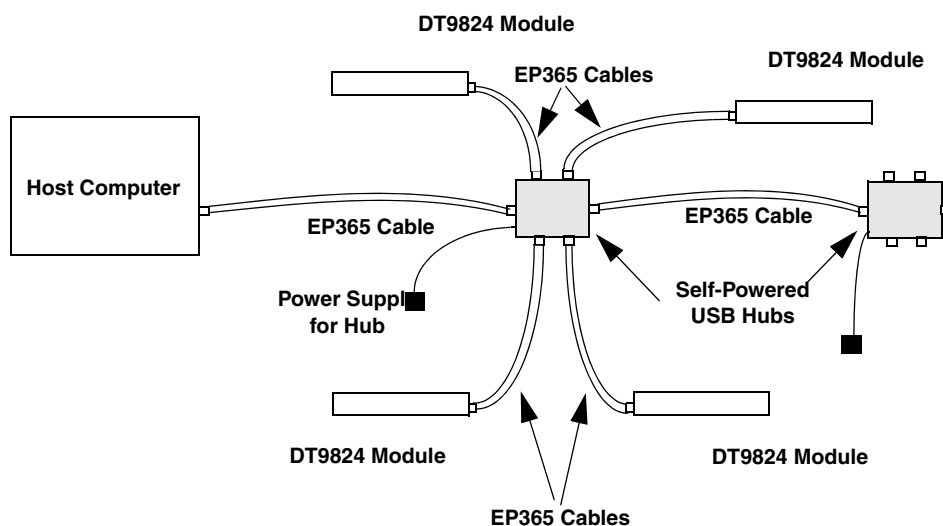

Figure 4: Attaching DT9824 Modules to the Host Computer Using Self-Powered USB Hubs
5. Repeat these steps until you have attached the number of hubs and modules that you desire. Refer to Figure 4.